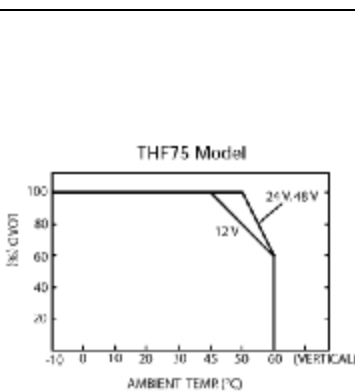
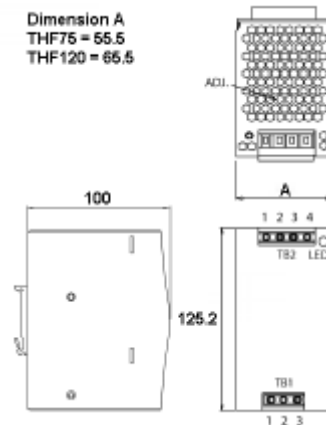

Fig. 2 Mechanical Specification
Fig.3 Terminals
- PS are equipped with a screw input and output terminals (see **Fig. 2** and **Fig. 3**)